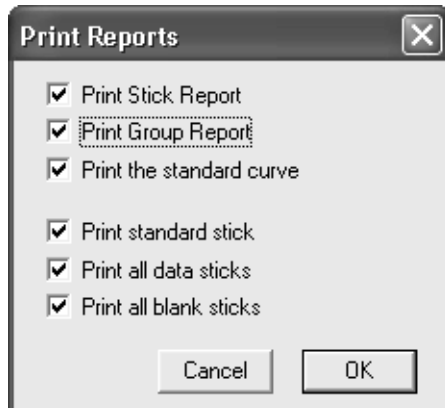

Figure 4-20: The Print Reports Dialog
- 2) The Print Reports dialog opens (Figure 4-20).
- 3) Select the desired reports (**TAB**, **SPACEBAR**) (see Figure 4-20). Any or all of the reports can be selected (see Table 4-8)